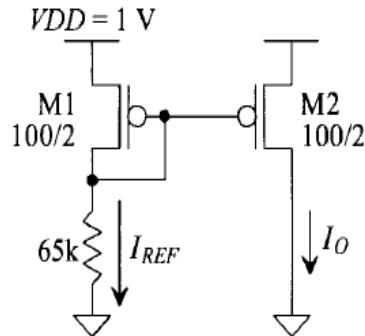

Fig.01
- 10) To estimate the temperature behavior of the gate voltage of M1 in Fig. 01.